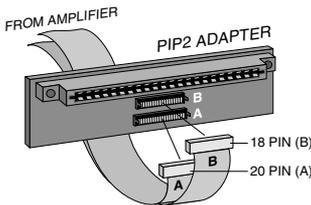

Fig.3.10 PIP2 Input Adapter Connection
2. Remove the existing PIP module or panel (two screws). For PIP2 amplifiers, this may involve disconnecting the PIP from a PIP2 input adapter (see Figures 3.10 and 3.11). If a PIP2 input adapter is already present, do not remove the ribbon cables from the adapter. Otherwise you will have to reconnect them in the next step.
PIP2 Amplifiers: (Requires a PIP2 input adaptor. Crown part number Q43528-1.) Connect the PIP2 input adaptor to the two input cables of the amplifier (see Figure 3.10). Notice that the PIP2 input adaptor should be positioned with the PIP edge connector on top and facing away from the amplifier. The 20-pin cable (A) is connected first then the 18-pin cable (B) is connected. Both ribbon cables should extend below the PIP2 input adapter.